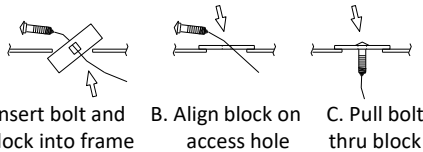

Figure 4
- Fishwire fasteners** – Using the fishwire technique in Figure 3, install the rearmost fastener through the drilled access hole (each side), then using the reverse fishwire technique in Figure 4 install the forward fastener (each side) leave fishwires attached.
- Reinstall exhaust hangers**– reinstall the (3) exhaust hangers to return the exhaust to the original position.